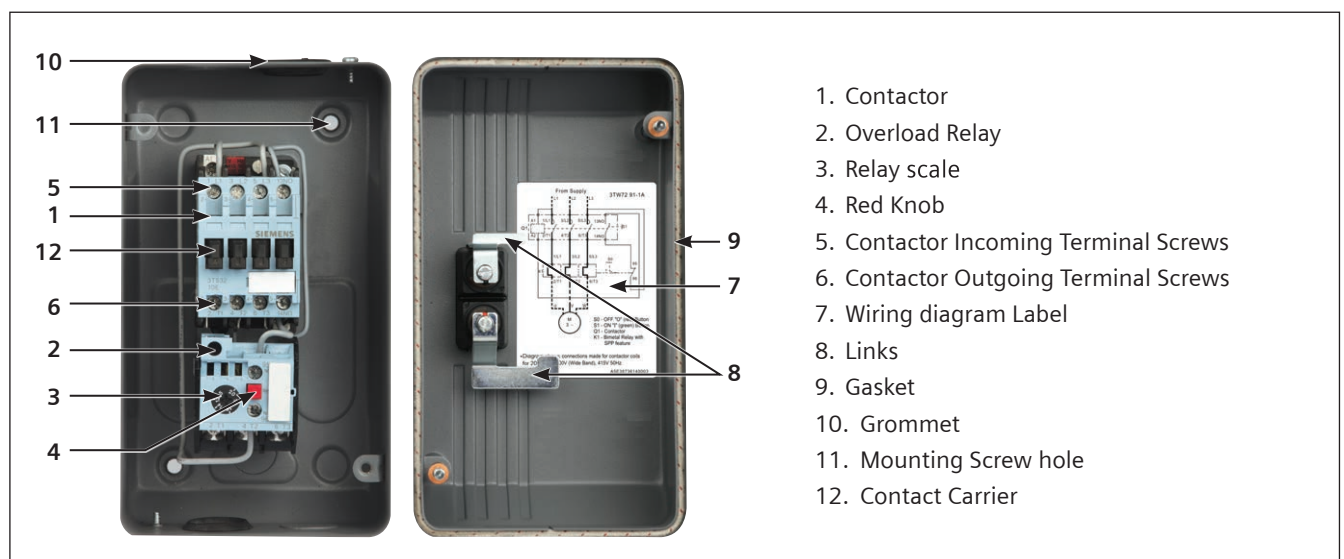

Fig. 2: Starter Inside View
- Remove the rubber Grommets for incoming and outgoing cable Connections. (Fig. 2)
- Connect incoming and outgoing cables as follows: (Fig. 2)
- Set the overload relay scale (Fig. 2) using proper screw driver as per the procedure given below.
- Press the contact carrier (Fig. 2) to start the motor and wait till it reaches to normal speed. Reduce the relay settings till it trips.
- Press the red knob (Fig. 2) on the overload relay to stop the motor